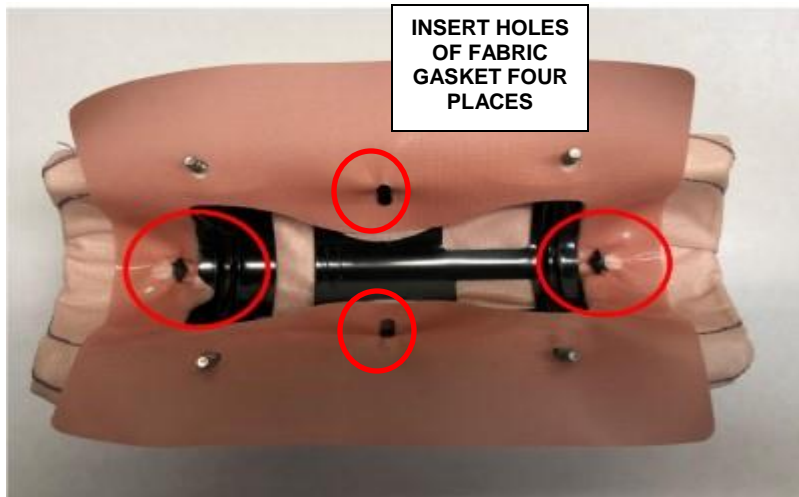

Figure 118 - Fabric Gasket
- h. With the help of a trim tool insert the holes of fabric gasket, four places (Figure 118).